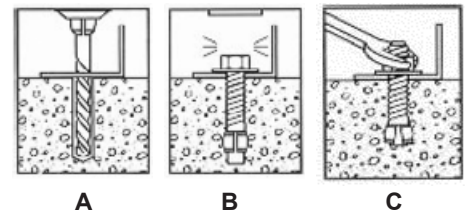

Figure 2-5: Concrete Anchors
1. Using a 1/2" (12.7 mm) diameter masonry drill, drill holes to any depth exceeding the minimum embedment (**Figure 2-5: A**). Clean hole.
2. Assemble anchor with nut and washer so that the top of the nut is flush with the top of the anchor. Drive anchor through material to be fastened so that nut and washer are flush with surface material (**Figure 2-5: B**).
3. Expand anchor by tightening nut 3 to 5 turns, to the specific torque requirement of 25 lb-ft (33.9 N•m). (**Figure 2-5: C**).